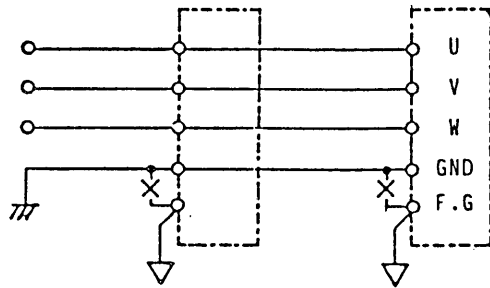

Figure 2-4
- o When power supplies are connected, the leak current increased as above may flow through the equipment frames thereby causing noise. To prevent this, make open between the F.G and GND terminals and connect the individual GND terminals to an earth with low impedance. (With this setup, the displacement current including a switching noise current can be prevented from flowing through the FG terminals.) See Figure 2-4.